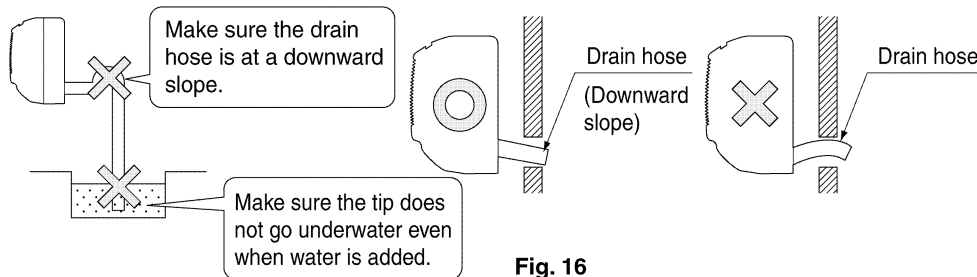

Fig. 16
### (1) Install the drain piping. (Refer to Fig. 16)
- Watch out for the points in the figure 16 when performing drain work.